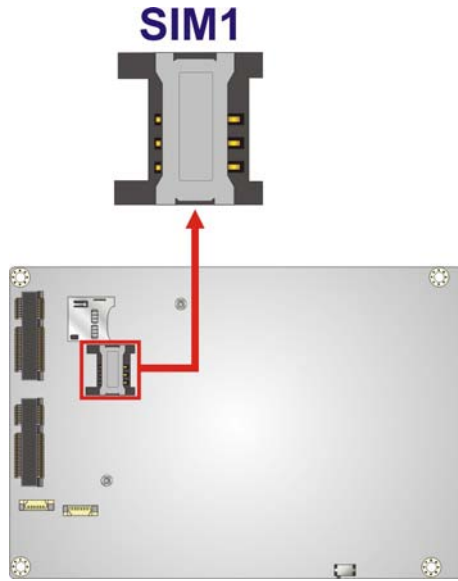

Figure 3-26: SIM Card Slot Location
- CN Location: See **Figure 3-26**